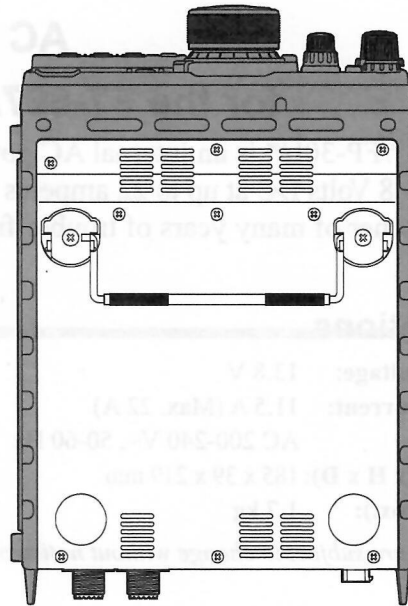

Figure 3
3. Attach the **FP-30C/FP-30U** to the bottom of the **FT-897/D**, then affix it in place with the six screws removed in the above step (Figure 3).